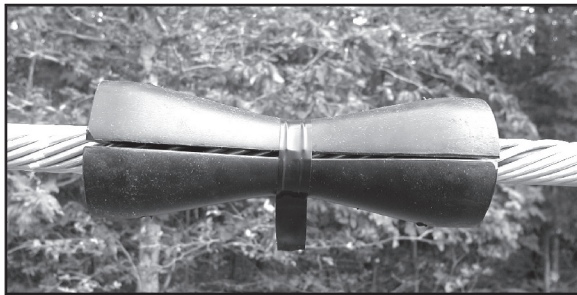

FIGURE 12: TAPE INSERTS IN PLACE
4.02 Position the inserts so that the joining faces are parallel to the ground. Tape in place with a thin layer of tape (Figure 12).